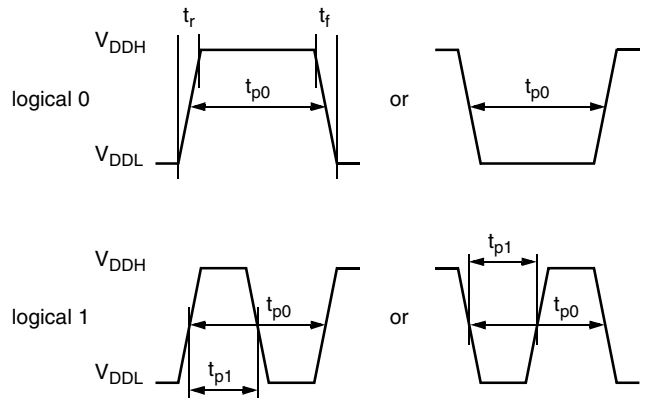

Fig. 5–1: Definition of logical 0 and 1 bit
- Write a register (see Fig. 5–2 on page 28)
- Read a register (see Fig. 5–3 on page 28)
- Programming the EEPROM cells (see Fig. 5–4 on page 28)
- Activate a sensor (see Fig. 5–5 on page 28)